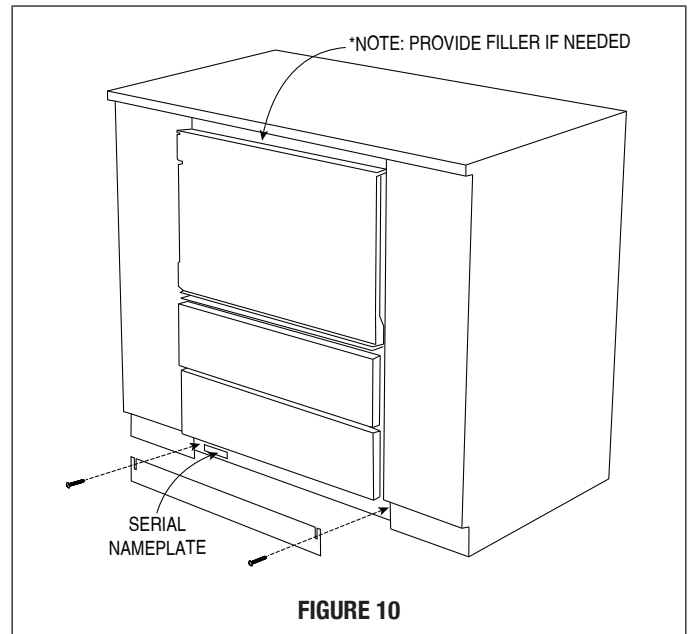

FIGURE 10
9. Install bottom kickplate. Use the 2 toe kick screws to fasten the plate. The 2 toe kick screws come installed in the unit. Remove these 2 screws prior to positioning the kickplate. See Figure 10.